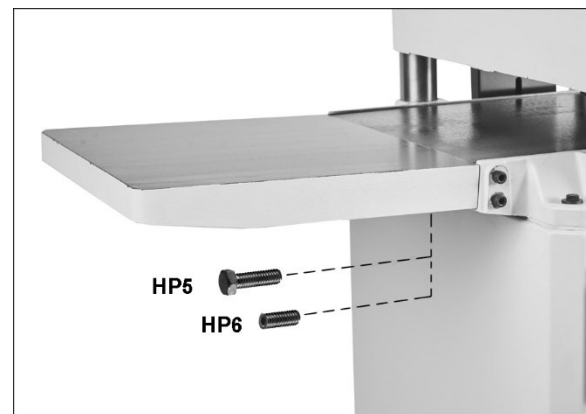

Figure 5-5: extension tables (JWP-15BHH only)
1. Insert 3 set screws (HP6, Figure 5-5) into the lower holes of a cast iron extension table.